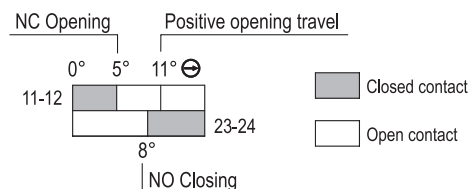

Fig.6
- The adjustment of the operating angle can be modified, in case of doors with large dimensions, till 1° of width before the start up of the hinge by adjusting the assembly screw by a screwdriver (fig.6).